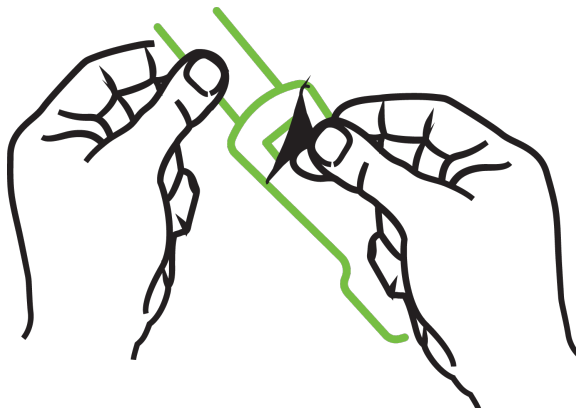

Figure 13-10: Removing protective liner from sensor
2. Remove and discard the protective liner from the sensor (Figure 13-10 on page 241).